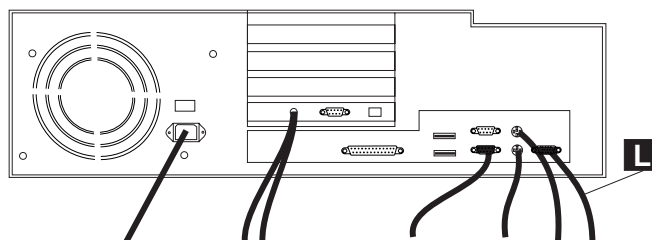

Figure 6-8. Display Connection to the NAS
5. At the rear of the Nways Switch administration station, connect the display signal cable **L** (refer to Figure 6-8).